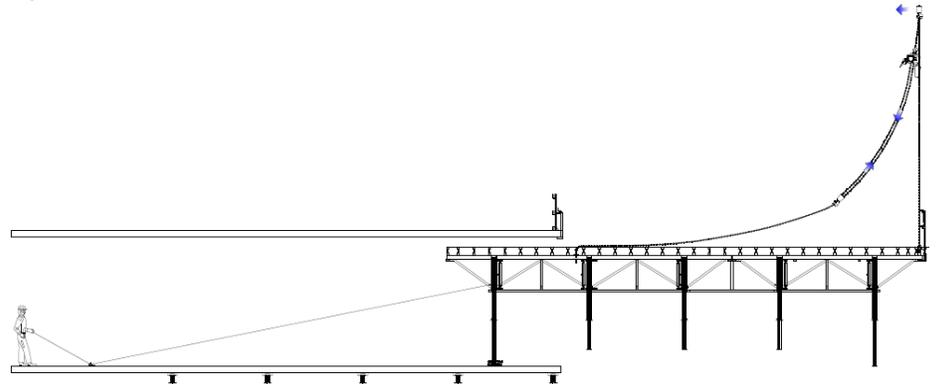

Fig. A3.09
8. Once SKYTABLE Lifting Clamp clears the edge of the slab, fully tension the lifting chains with the compensator and position the crane hook over the center of gravity of the table. (Fig. A3.09, A3.10)